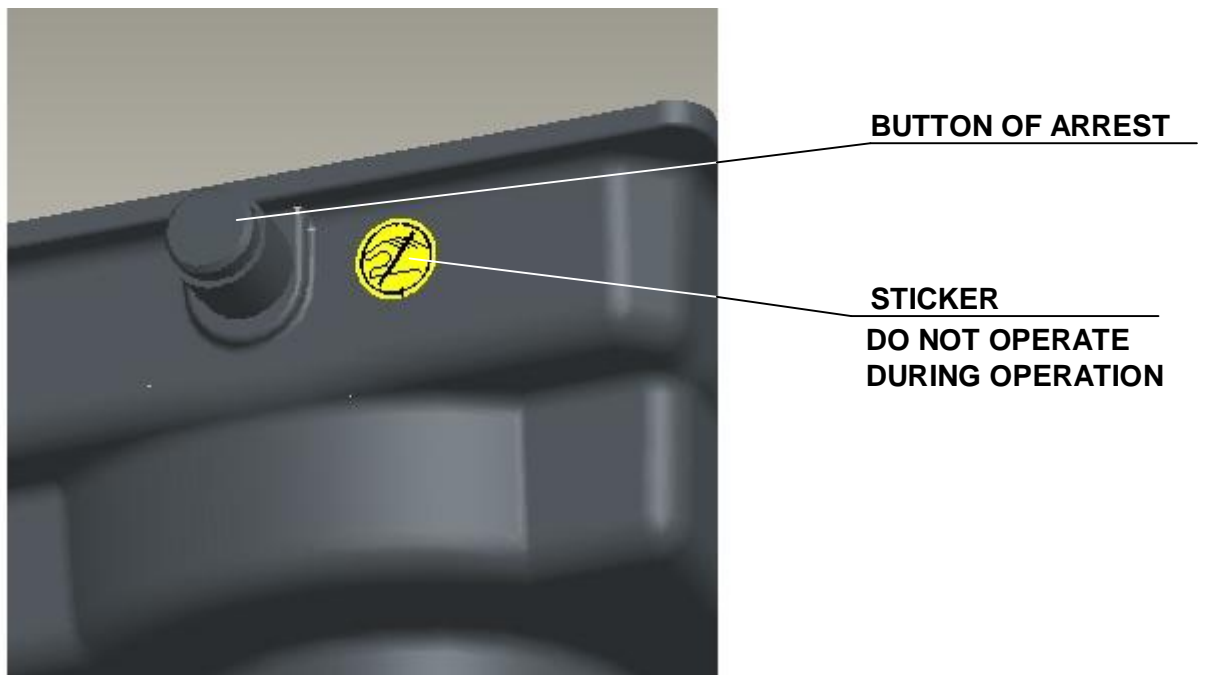

Fig.11
- During the manual control it is needed to press the detent button – see Fig. 11. After the manual control the detent button is to be released.